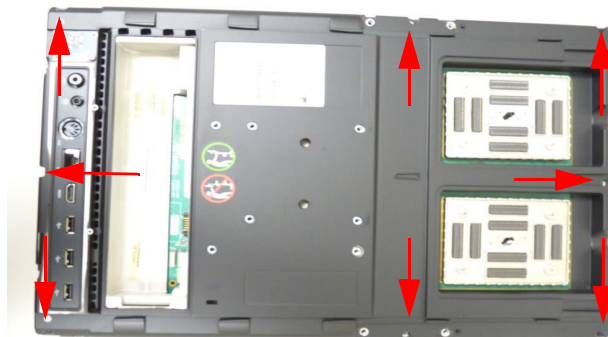

Figure 6.4 Base Assembly Screw Removal
- 8** Remove eight screws securing the Base Assembly to the User Interface as shown in Figure 6.4
- 5 Flip the system over so it appears as shown in Figure 6.4 and fasten with eight screws at 5.5 in-lbs.